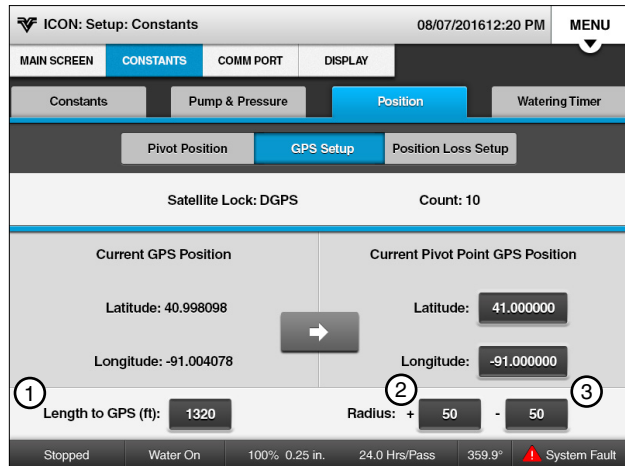

Figure 44-1
4. Set the Distance to GPS (the distance from pivot point to GPS tower box) including the plus and minus tolerance. Refer to Figure 44-1.